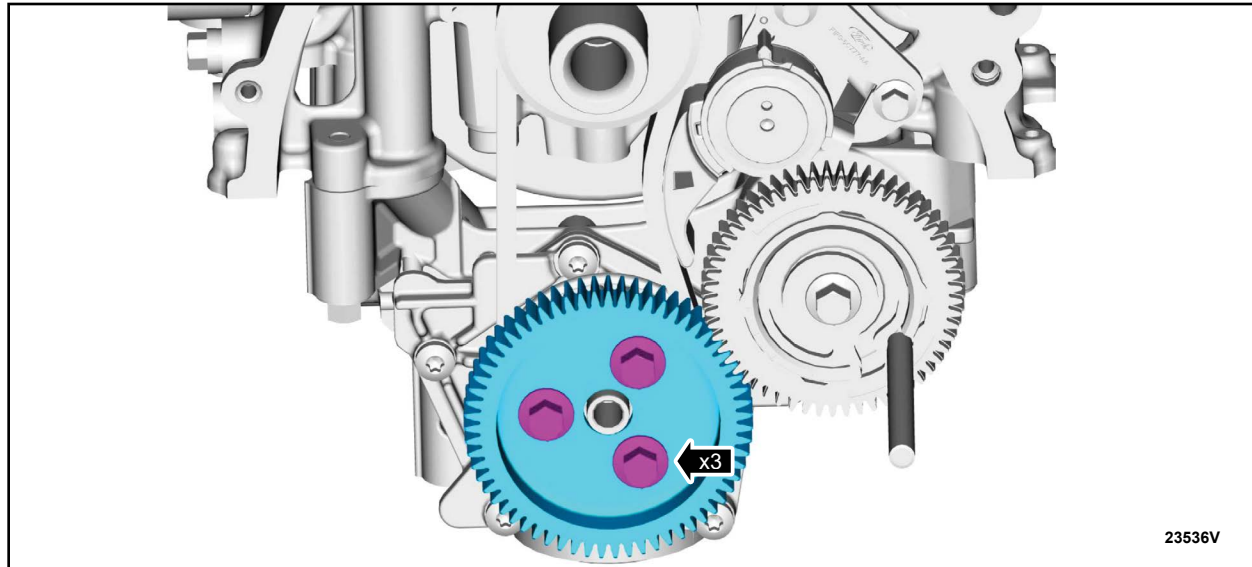

FIGURE 25
32. Install the oil pump gear. Install *new* bolts. See Figure 25.